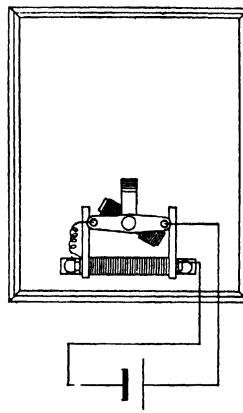

FIG 81
**V. Series-wound motor.** (a) Connect the electromagnet attachment in series with the armature and the cells, as in Fig. 81. Does all of the current now flow through both the armature and the field magnets?